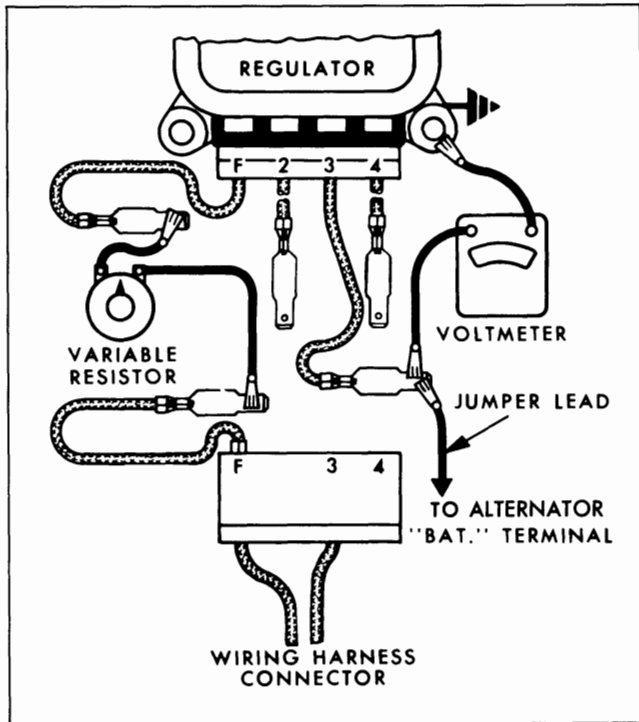

Fig. 11-33 Checking Voltage Setting
2. Make connections to the adapter as shown in Fig. 11-33. Use a 25 ohm 25 watt variable resistor in series with the field winding at the regulator "F" terminal, and connect a jumper lead from the adapter to the alternator output or "BAT" terminal as shown. Also, connect a voltmeter from the adapter to ground, as shown. Turn the variable resistor to the closed or "no resistance" position.